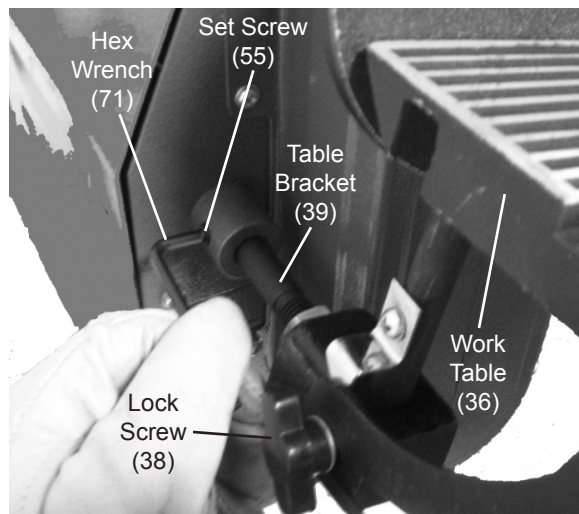

Figure 4
4. To install Work Table (36), slide Table Bracket (39) into slot on the belt housing. Then use Set Screw and Hex Wrench to fasten the Bracket. See Figure 4.
5. Use the Lock Screw (38) to secure Table Angle Gauge (37) to the Work Table. See Figure 4.